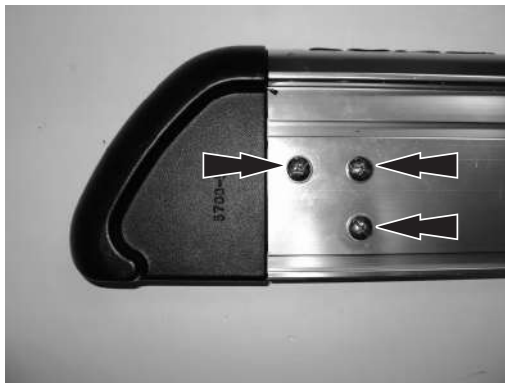
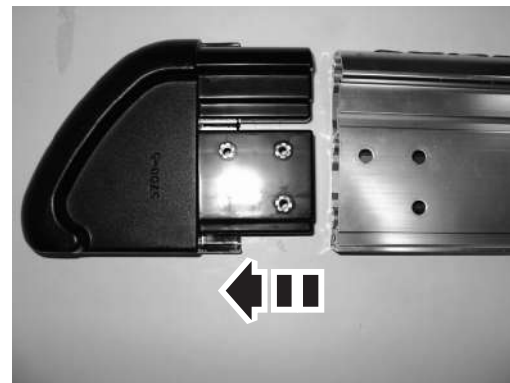

Figure 4
Figure 5
Remove the (3) screws holding end cap to board, (Figure 4). Carefully pull the end cap out of the extrusion, (Figure 5).